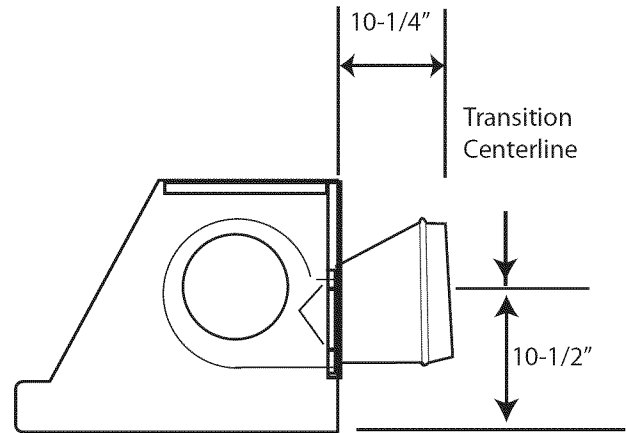

**Figure 6: Cutout Dimensions**
11. **Discharge Direction:** Horizontal discharge requires a wall cutout, as shown in Figure 6, to provide clearance for the transition. The location of the cutout is determined by the hood installation height.
3. For horizontal discharge, use Figure 6 for the geometry of the cutout required for clearance of the transition.